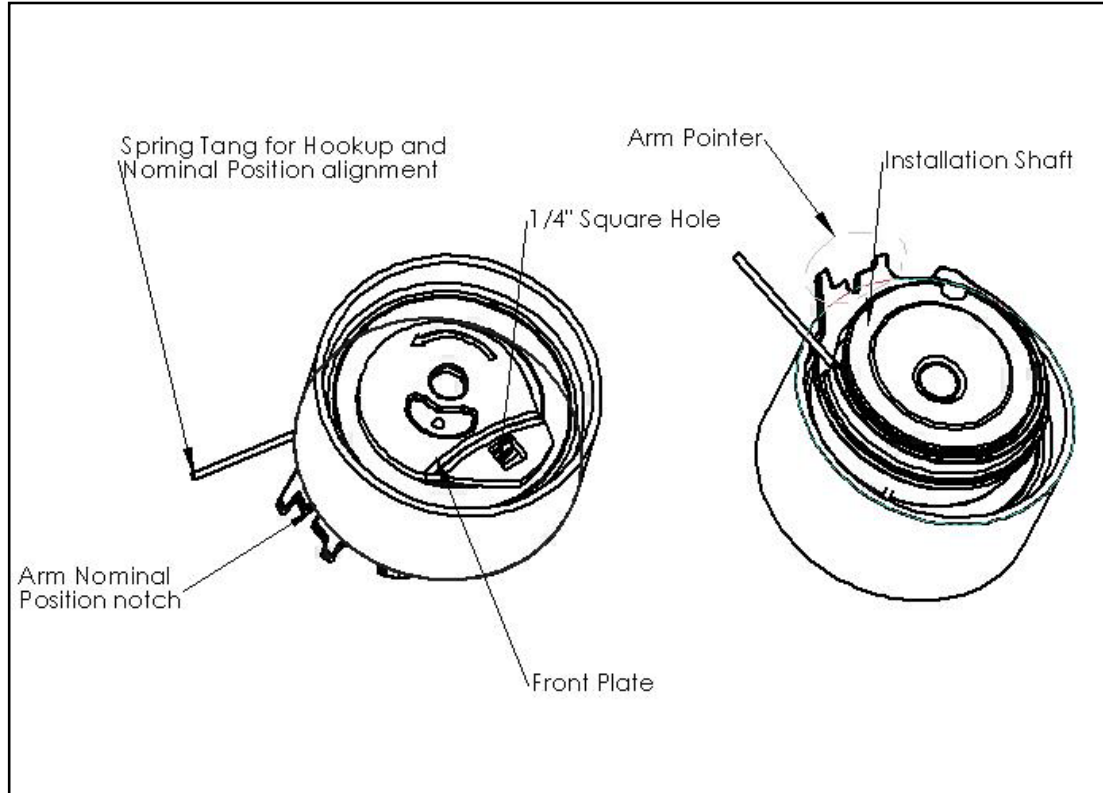
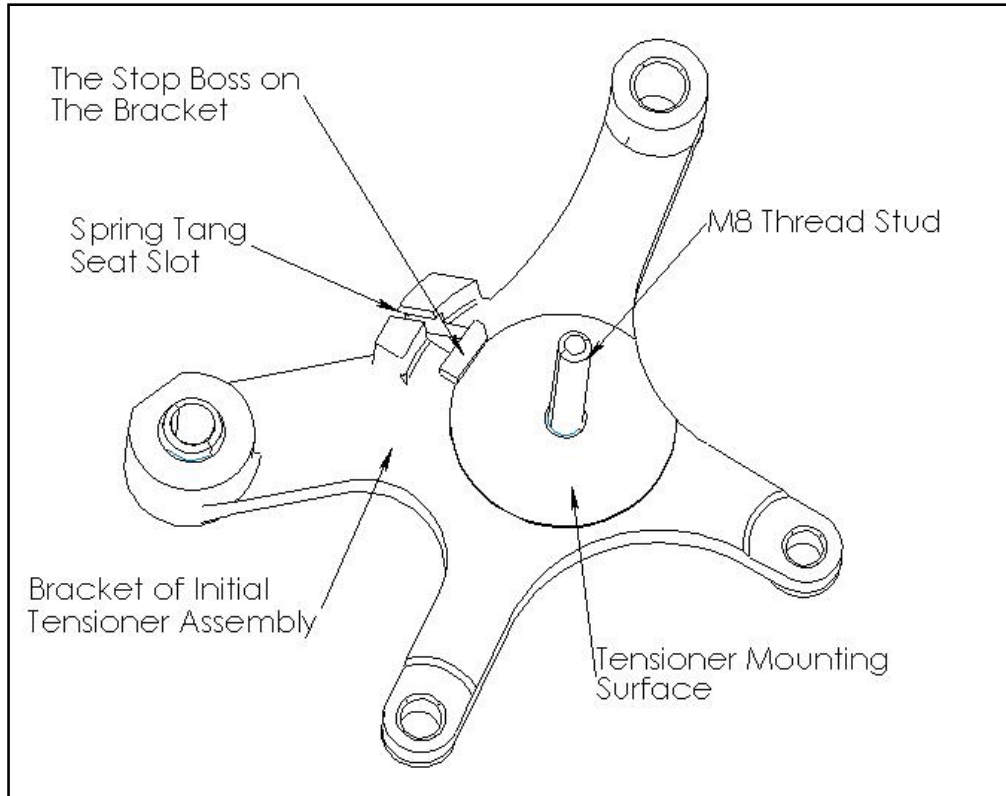
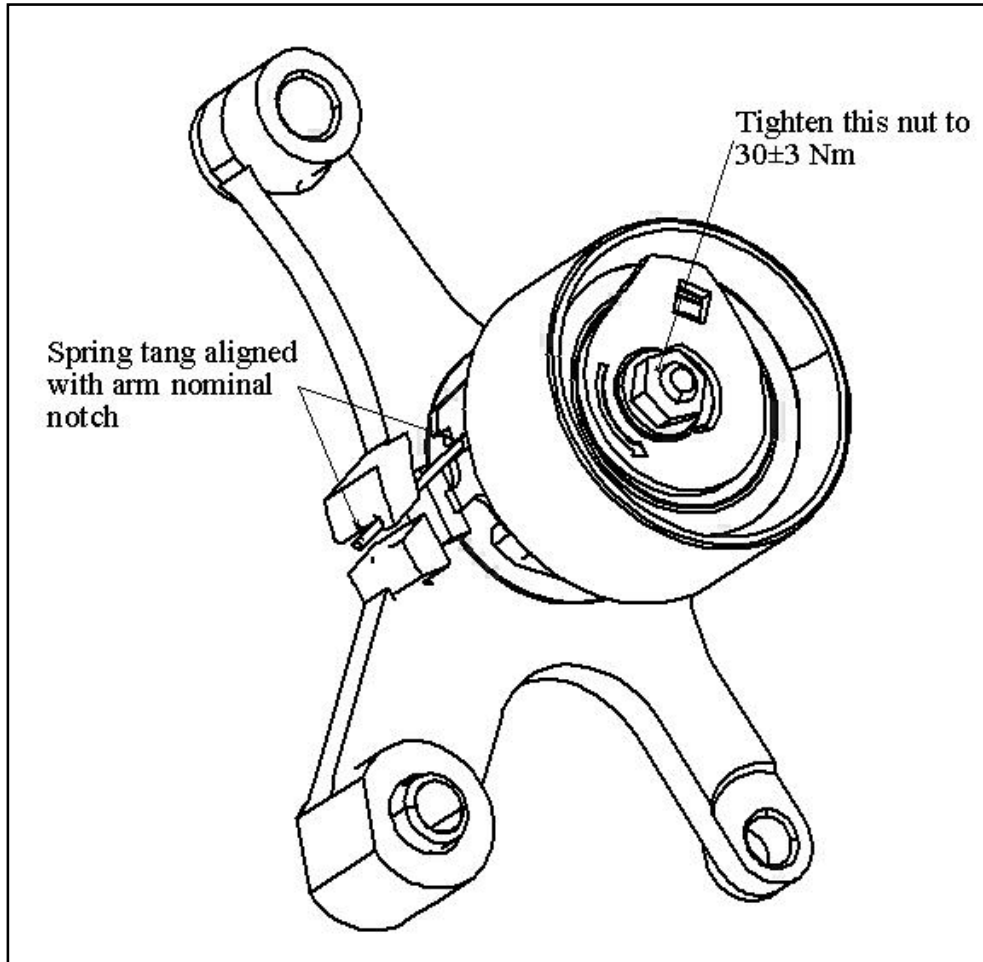

Figure 3: Tensioner Shown at Freearm
Figure 4: The Bracket of Initial Tensioner Assembly
Figure 6: Tensioner Shown at Nominal Position
5. Install new TBT (see Fig. 3) on the engine ensuring that the tensioner's Spring Tang is seated into the slot in the aluminum bracket, which is still mounted on the engine block. See Figure 4 and 5.
6. Rotate the installation shaft on the tensioner with a 1/4" Square Key **CLOCKWISE** until the tensioner pivot shaft is stopped by a boss on the bracket, see Fig. 3 and 4. This will maximize the belt clearance for ease of installation. Hand tighten (lightly) the Flanged Mounting Nut.
9. Continue rotating the Installation Shaft until the **Arm Nominal Position Notch** aligns with **Spring Tang**, (see Fig. 3 and 6). Tighten the tensioner in this position by torquing the Flanged Mounting Nut to **30±3 Nm**.
If the Spring Tang aligns within Arm Nominal Position Notch, see Fig. 6. The installation is complete.
14. Rotate the Installation Shaft with the 1/4" Square Key until the Spring Tang (see Fig. 3) aligns within Arm Nominal Position Notch, see Figs 6.